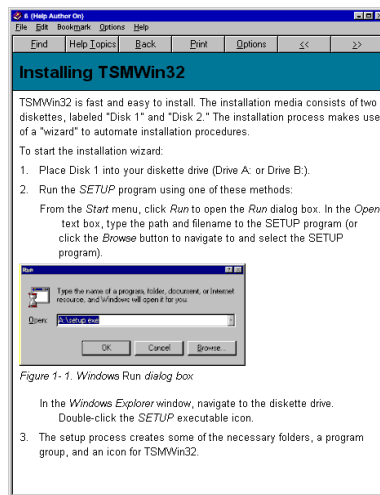

Figure 2- 33. Help topic
- *Help Topics*: Open the *Help Topics* window (Figure 2- 32).